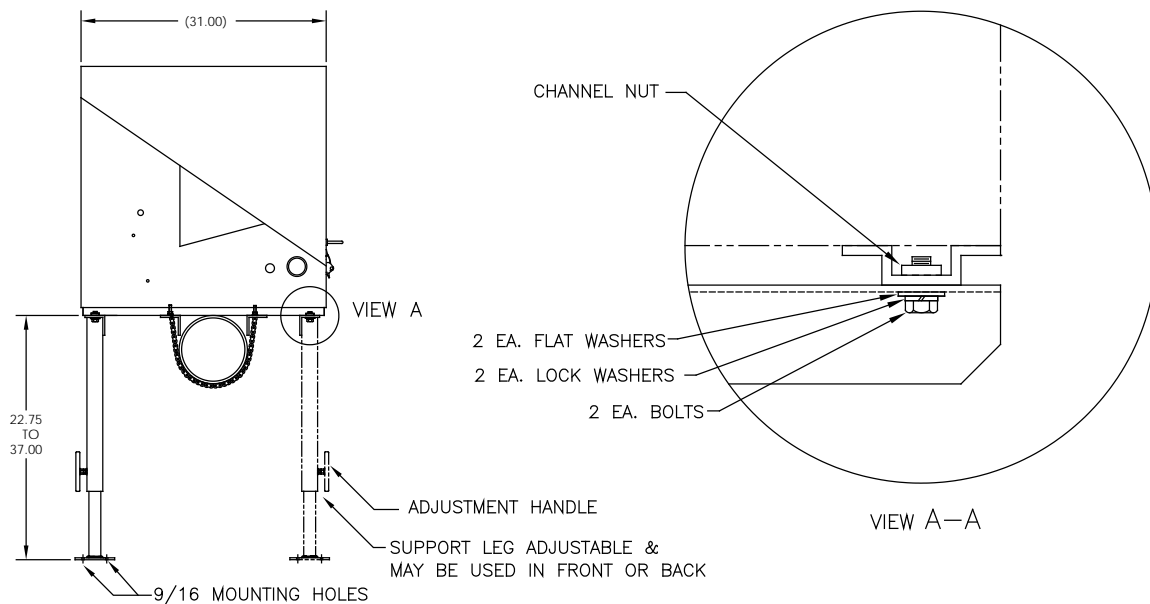

Figure 3-14 ENC82L-Optional support leg Overview
- 1) Set the support leg underneath the front or rear (or both if using 2 kits) of pipe mounted enclosure, oriented so that the leg brace is horizontal with the front of the enclosure (see Figure 3-14).